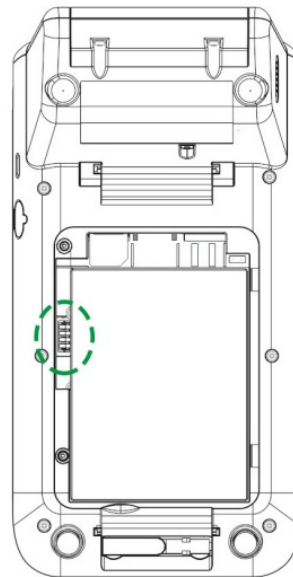

Figure 8
STEP 2: Lift the battery and pull up the battery connector from the device as Figure 8
STEP 3: Insert the connector of the new battery into the device as Figure 8